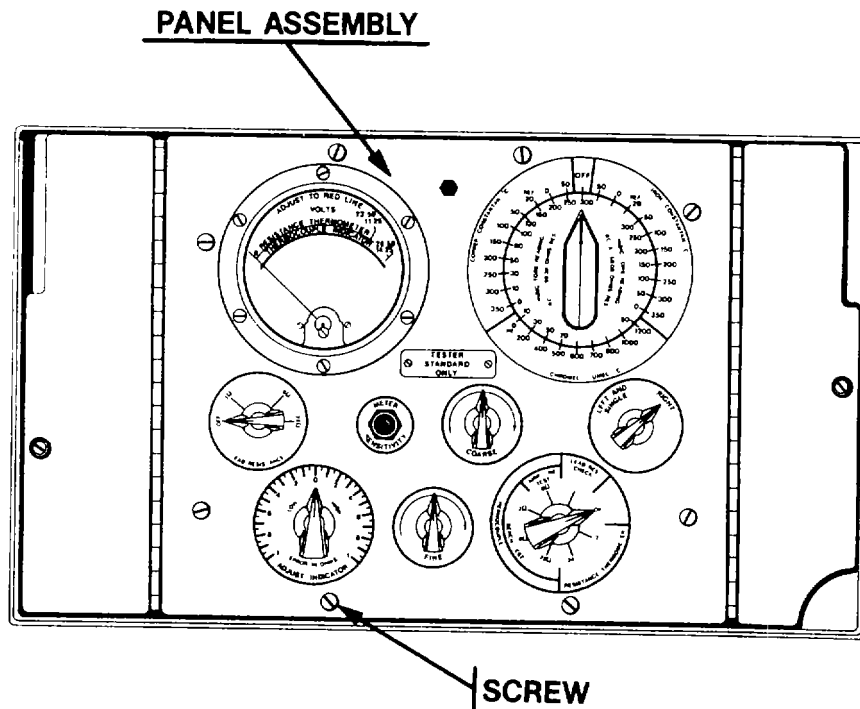

Figure 3-8. Instrument Panel Assembly
- a. Detach battery leads and use screwdriver to remove eight screws securing instrument panel to case (See Figure 3-8).